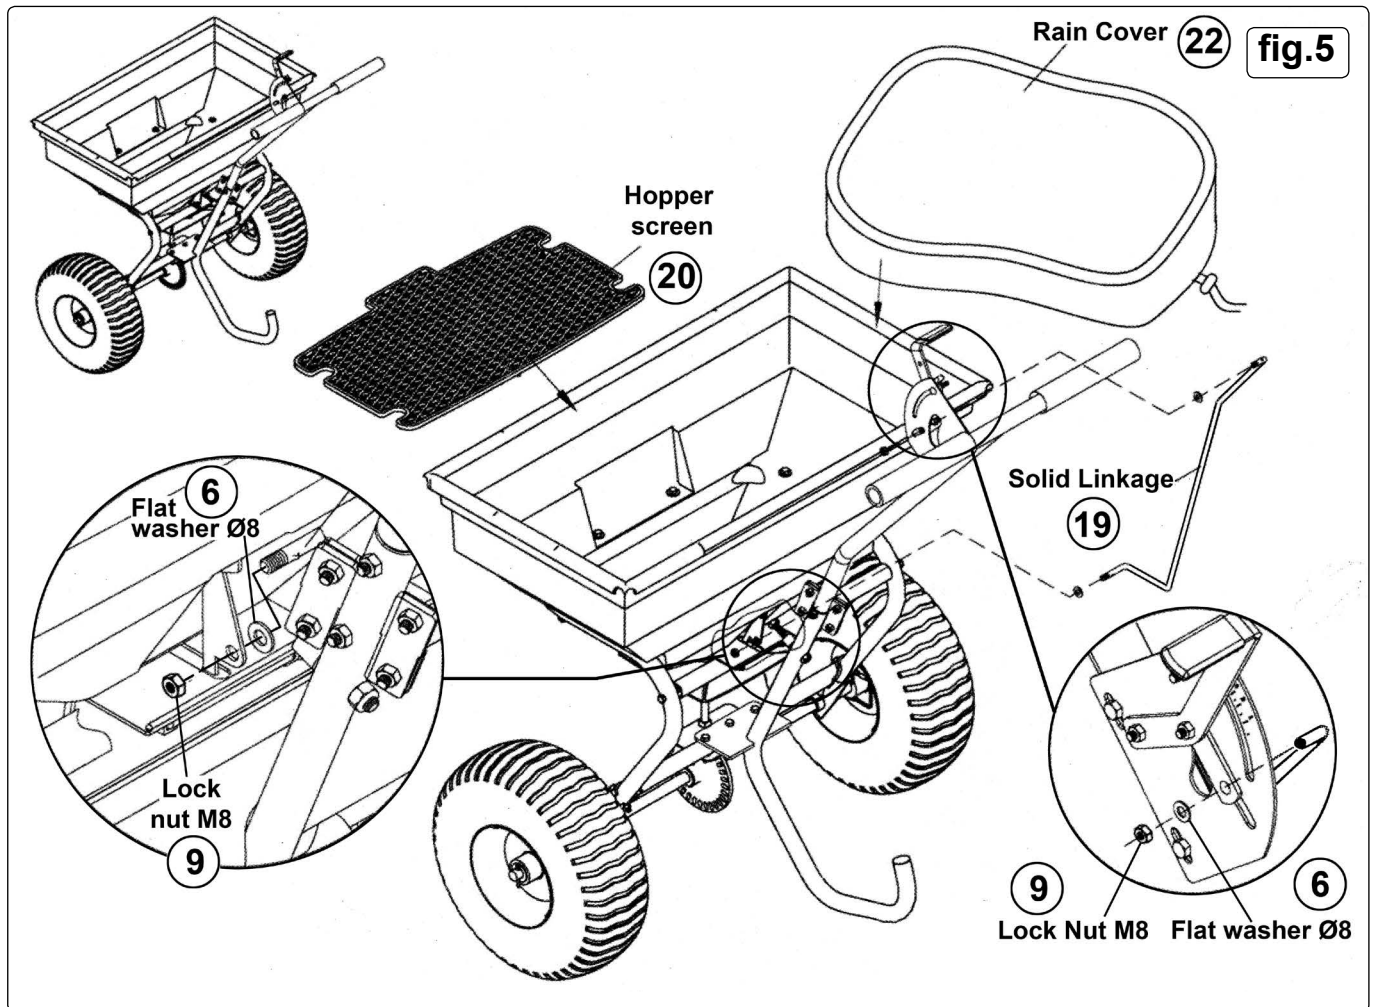

fig.5
**4.5 CONNECTING THE FLOW CONTROL LINKAGE. (refer to fig.5)**